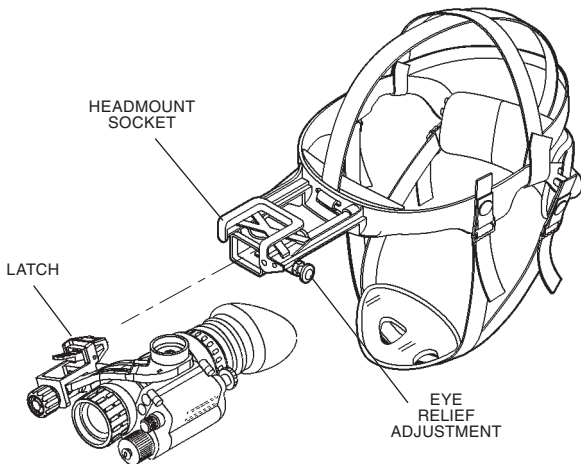

FIGURE 2.20. HEADMOUNT/HELMET MOUNT ADAPTER OPERATION
(3) Align the headmount/helmet mount adapter's latch to the headmount socket (Figure 2.20.). Press and hold down the latch lever while installing the monocular into the headmount socket.
(4) Set your eye relief by depressing the eye relief adjustment (Figure 2.20.) and move the monocular back toward your non-dominant eye until the eyecup comfortably seals around the eye.
(5) Turn the monocular ON.